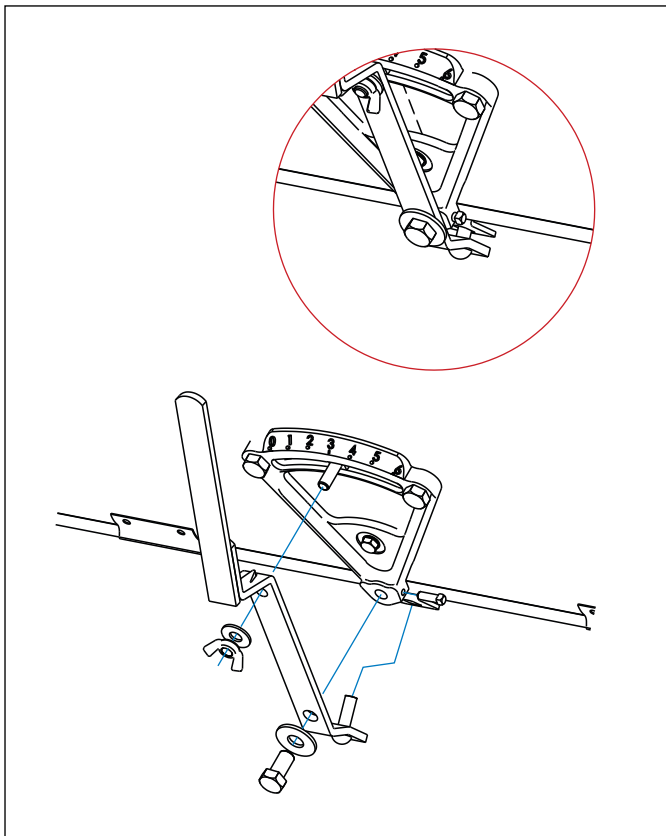

Figure 2-35: Shift Handle
6. Position the shift handles on rear of boxes so the pin in the bottom of each handle engages the slotted hole in the slide. Attach handles to shift plates using 1/2 x 1 Pivot Bolt and Flat Washer. Tighten Bolt just so the handle can move easily and then lock the Bolt by installing Set Screw into tapped hole in cast iron shift plate. **See Figure 2-35.**